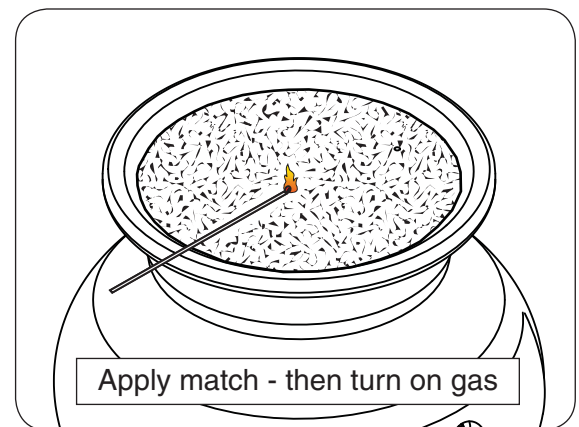

Fig. 17-1
3. Lay a lighted long-stem match on the surface of the decorative media near the burner (**do not hold the match in your hand**) or use a lighted long-necked butane lighter (Fig. 17-1).